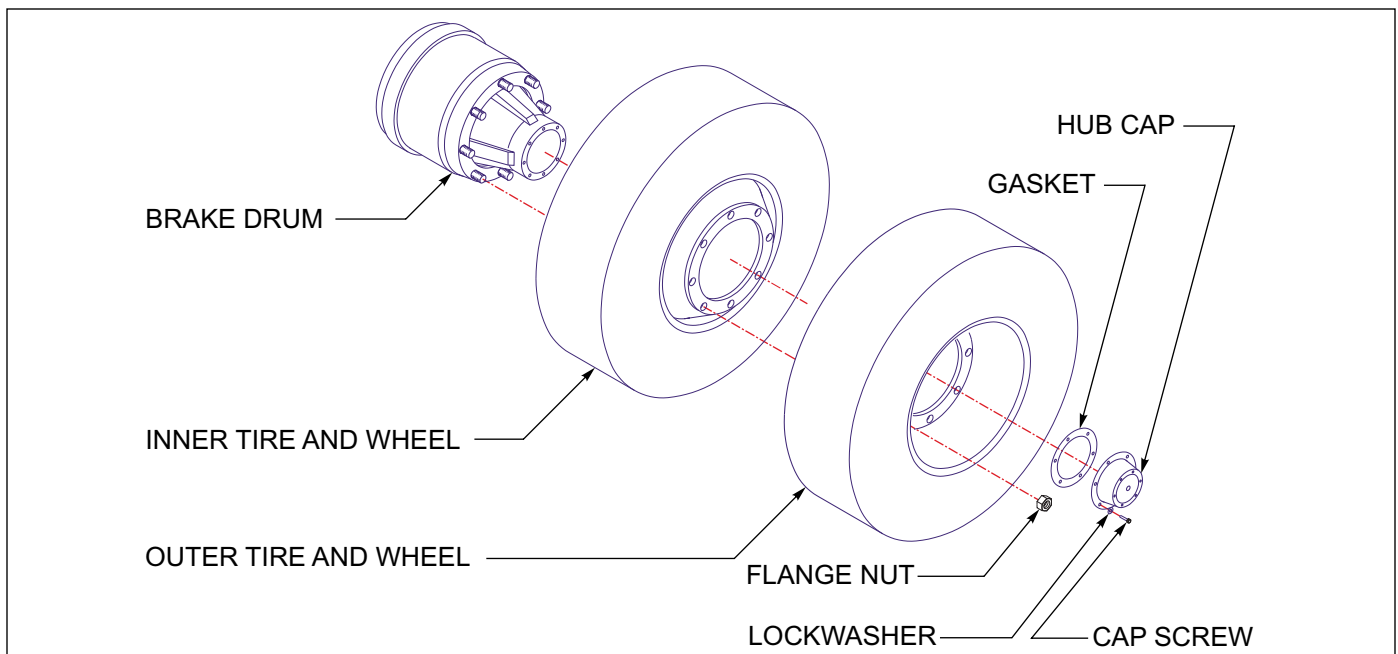

Figure 4-20: Mounting Tires and Wheels
1. Make sure that all mounting surfaces are clean and free of rust, dirt or paint. A wire brush may be used to clean these surfaces (See Figure 4-20.)